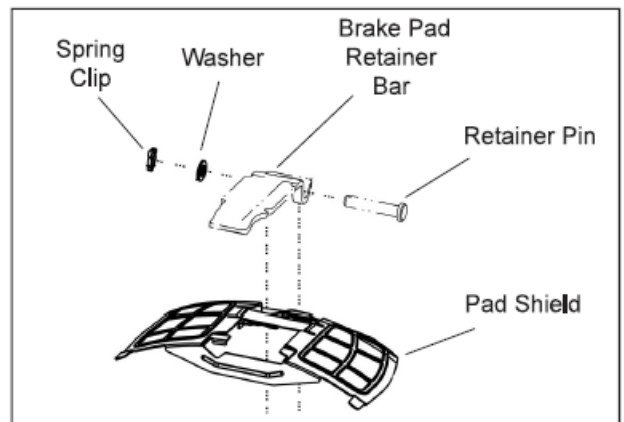

Figure 6: Pad Shield
7. Remove and retain the pad shield (if equipped). See **Figure 6**.